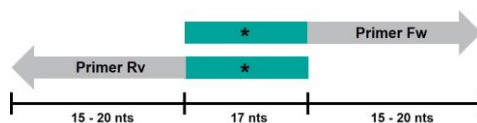

Figure 2. NZYSupreme Mutagenesis kit primer design scheme.
Primers should be complementary at the 5'-overhangs and must contain the desired mutation(s) in both sequences. Thus, the two primers should consist of two main parts (Figure 2): (1) a 5'-complementary region of 17 nucleotides (in green), containing the desired point-mutation(s) (indicated as * in Figure 2) in the middle of the sequence; (2) 15-20 non-overlapping nucleotides (in grey) at the 3'-terminus. In case the desired mutation is a codon select the most divergent codon possible. Primers should have a melting temperature (T_m) of at least 78 °C and should terminate in one or more C or G bases. A minimum GC content of 40% is advisable. Primer purification (FPLC, PAGE or HPLC) is strongly recommended. The mutagenesis protocol uses 125 ng of each oligonucleotide primer.